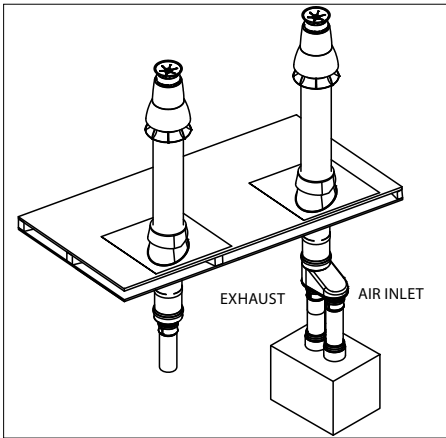

Figure 18
9. Connect Co-Linear Adapter to termination (**Fig.18**)
- If appliance only requires single vent (exhaust) you may attach PolyPro system directly to the inner pipe of the termination assembly without using the Co-Linear Adapter (**Fig.18**)